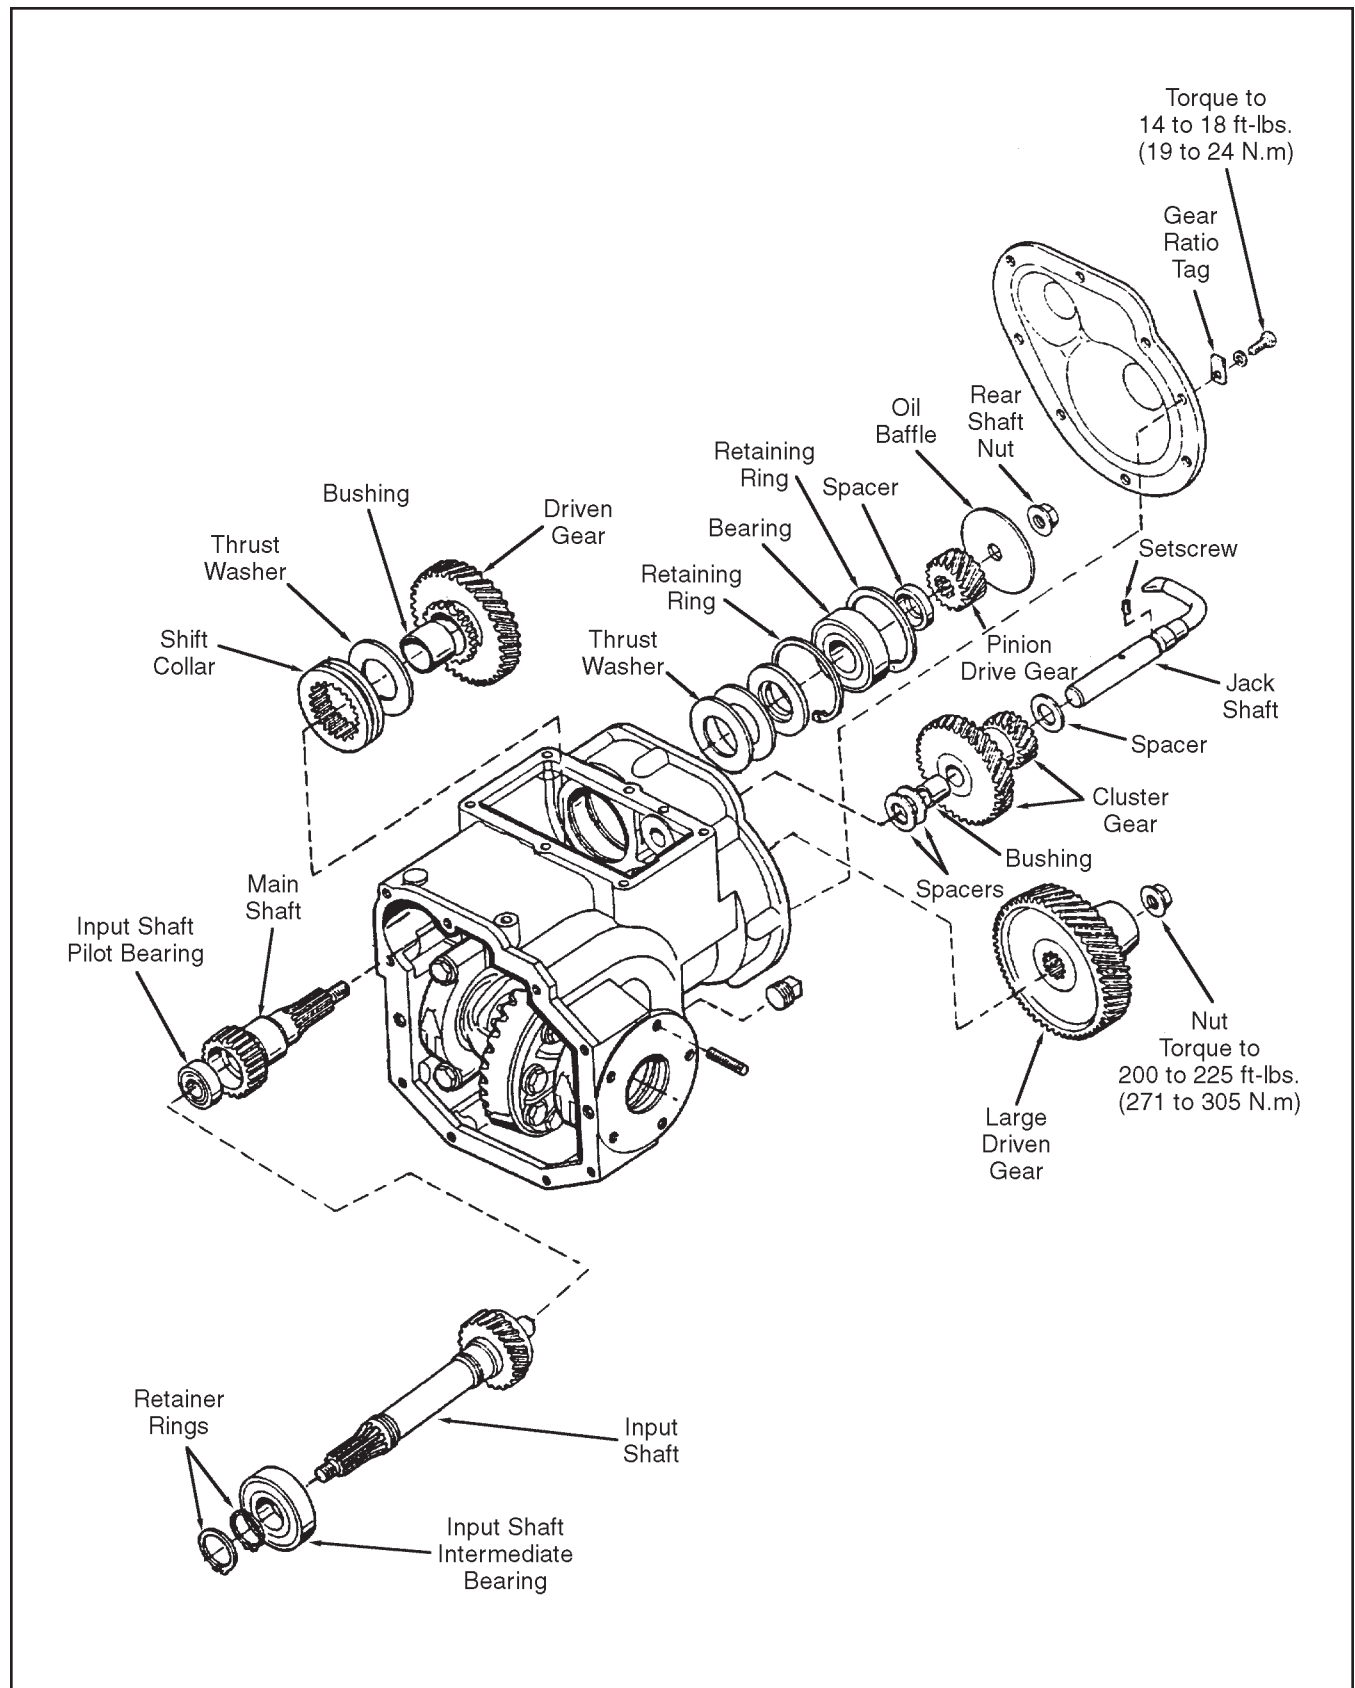

Figure 4I-13. Auxiliary Transmission Reassembly
30. Install the shift control cover as shown in Figure 4I-10.
31. Install the axle housings and axles as shown in Figure 4I-4.